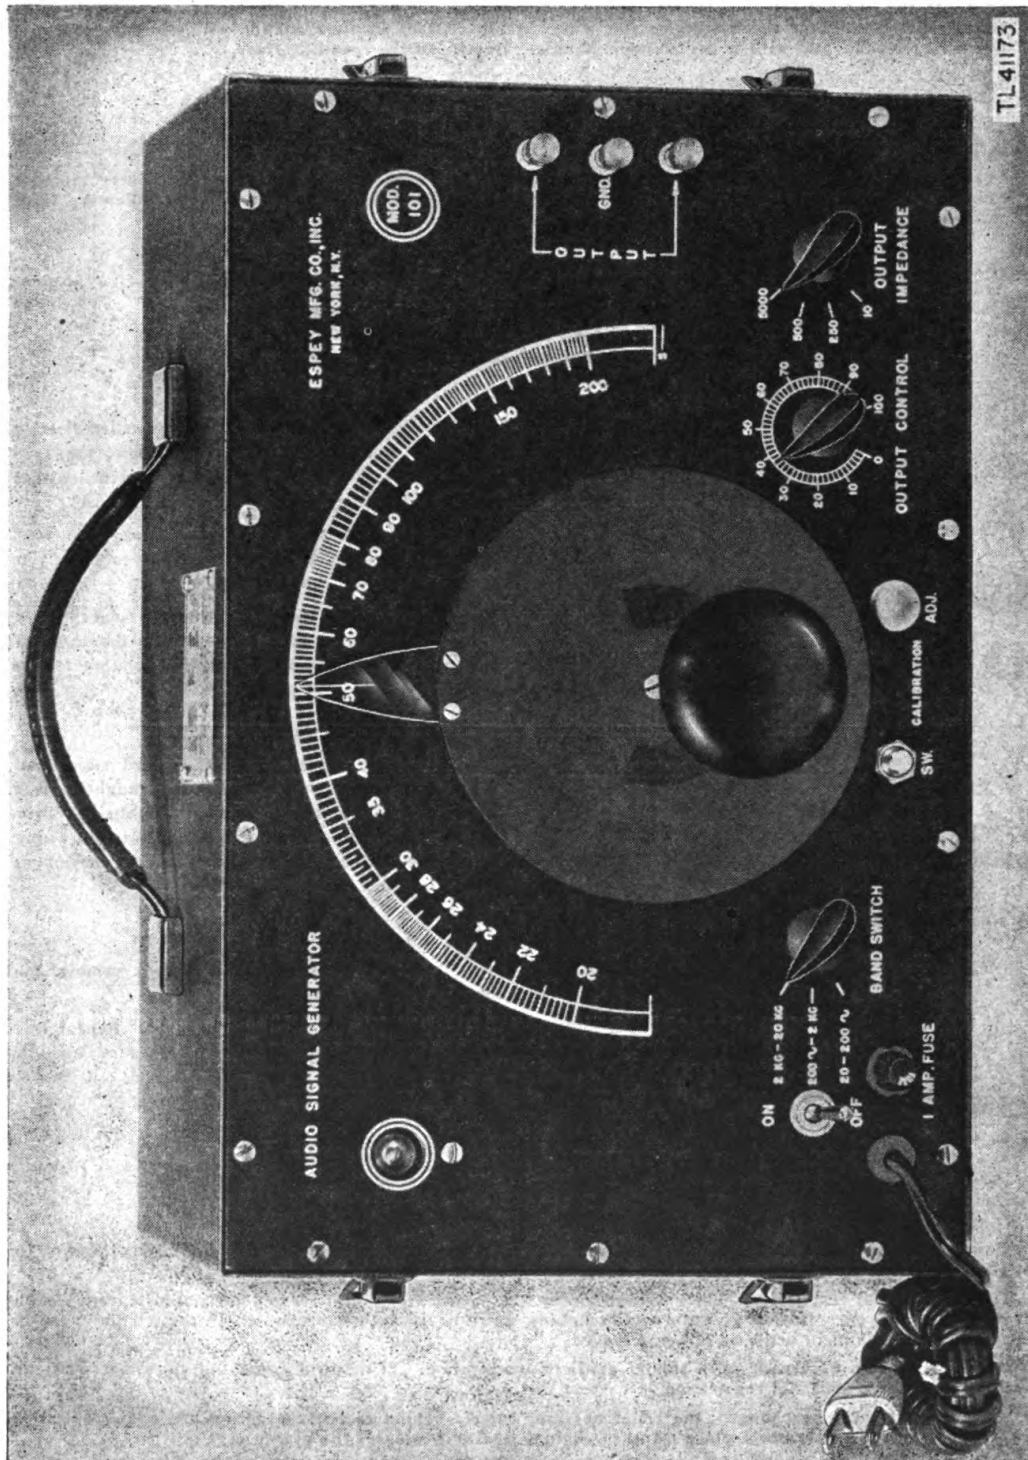

Figure 1. Oscillator I-151-A, with cover removed.
2. OSCILLATOR I-151-A. This unit is an audio-frequency oscillator operating from an a-c line of 110-120 volts at 60 cycles. Its output covers the frequency range of from 20 cycles to 20,000 cycles in 3 bands as follows: 20-200, 200-2,000, and 2,000-20,000 cycles. All the controls and switch are mounted on the front panel. The chassis, attached to the front panel, supports the internal components, such as the transformer, tubes, resistors, etc. To remove the chassis, unscrew the fourteen screws around the edge of the panel and pull it forward. The set can be calibrated against the 60-cycle line by means of the neon lamp which is normally used as an ON-OFF indicator. Calibration can be made from the front panel. *However, this adjustment should not be attempted by inexperienced personnel.* The set weighs 25 pounds and the dimensions are 15 by 7 by 9½ inches. Two views of the instrument are shown in figures 1 and 2.